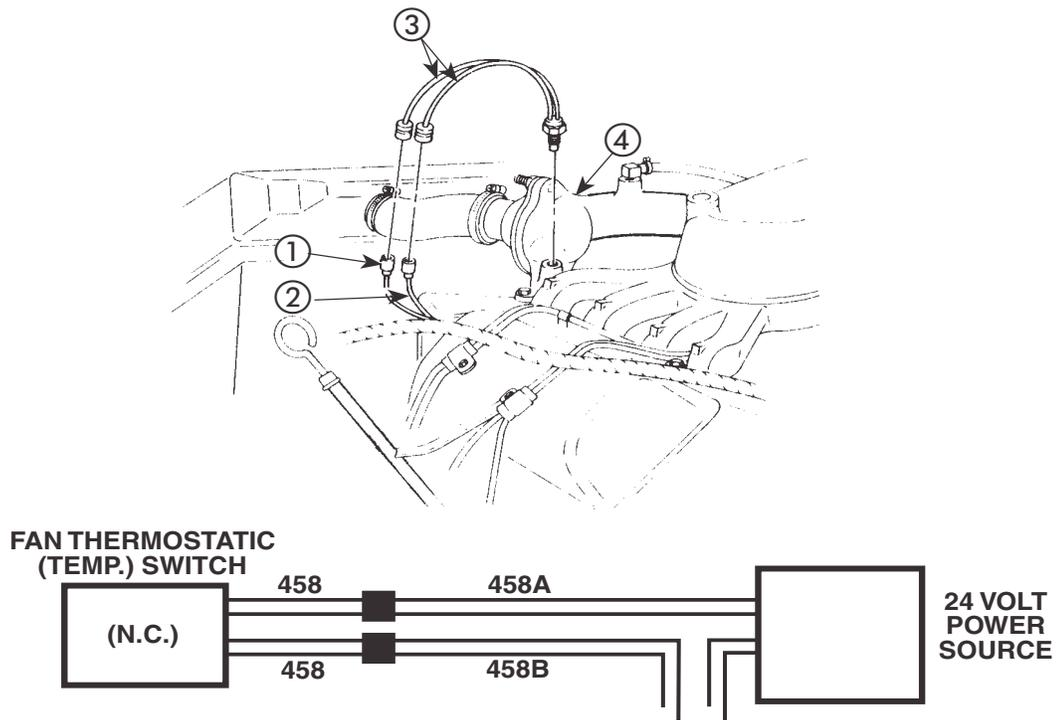

Figure 1-1. Fan Thermostatic Switch Testing Hookup.
B. FAN THERMOSTATIC SWITCH TESTING (Figure 1-1)
1. With engine running disconnect engine harness leads 458A (1) and 458B (2) from